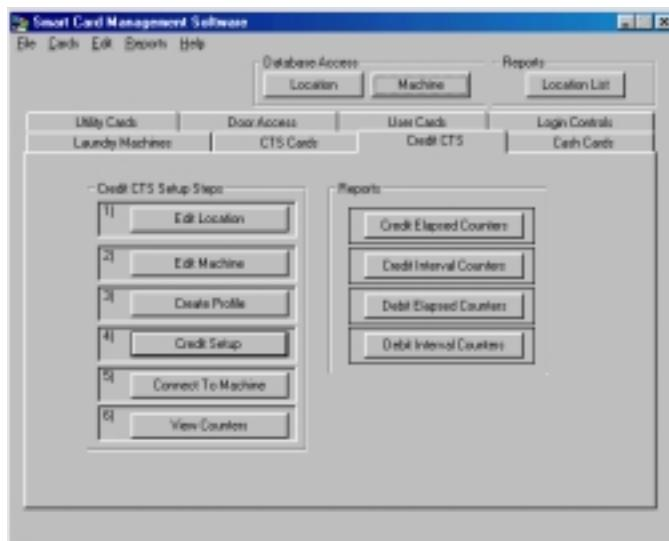

Figure 2.17 Credit CTS Manager
2.2.6.7. Credit CTS Manager (Figure 2.17)